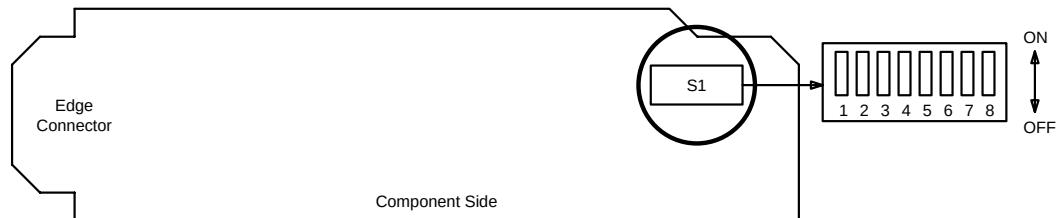

Figure 1. DS1/DS1PM Option Settings
Refer to Table B and Figure 1 and set the line code option switches, if required.
7. Refer to Figure 1 and Table A and set LBO option switches on protection **DS1/DS1PM** circuit pack.